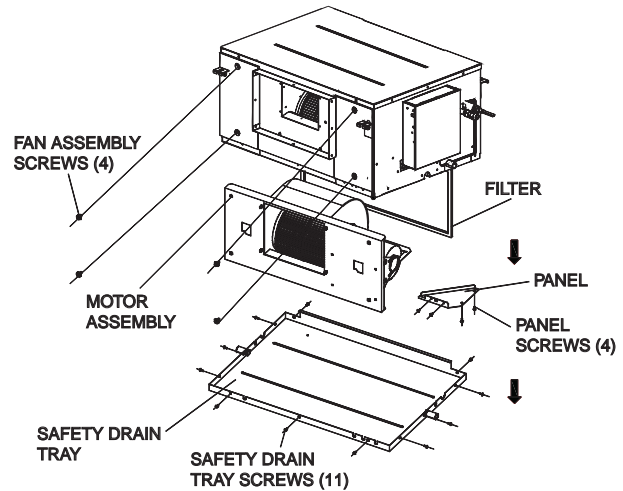

Fig. 17 — Removing Safety Drain Tray and Front Panel (Unit Sizes 024-036)
1. Disconnect the safety drain tray connection. Remove the screws holding the safety drain tray as shown in Fig. 17.
2. Remove the screws holding the reinforced panel as shown in Fig. 17.
4. The fan motor assembly is mounted on the front panel. Remove the screws on the front panel as shown in Fig. 17.